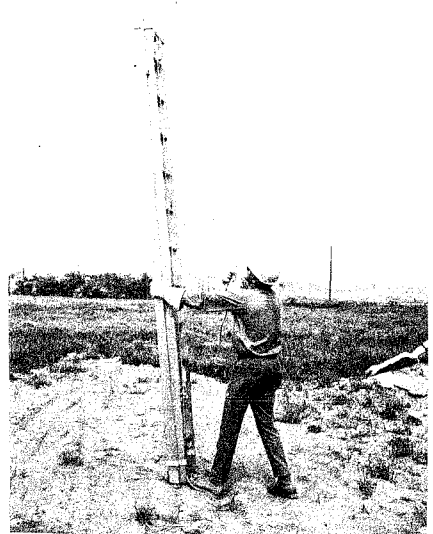

Fig. 30 — Preparing to Extend Top Section
8.01 After the ladder has been raised to an upright balanced position, (See Fig. 30) take a position in front of the ladder with one foot against the base to prevent it from kicking out. Place the other foot in a bracing position to the rear to provide a firm stance. Untie the ladder extension rope. The craftsman's foot at the base of the ladder reduces the possibility of the ladder slipping.